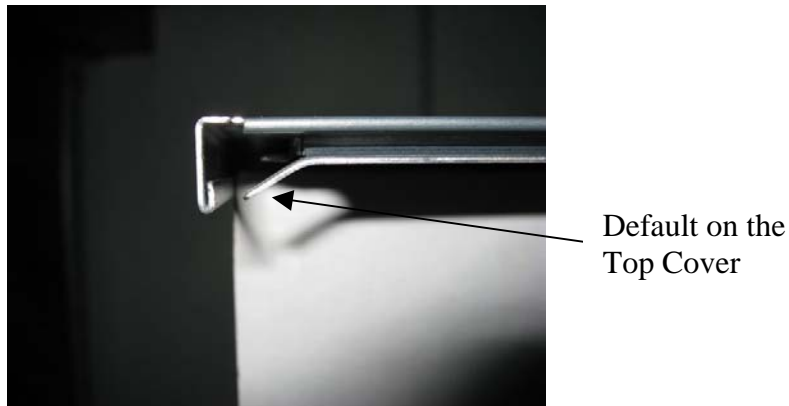

Figure 39 : SUN SF V245 Top Cover
- On the top cover, knock out the metallic part if it is bent like on the Figure 39.